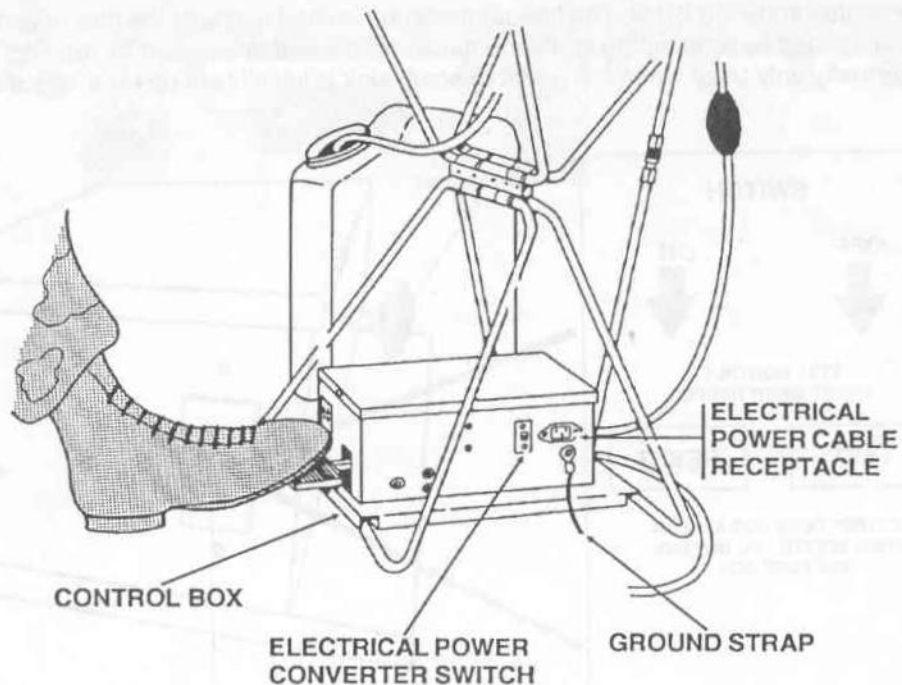

Figure 2-17. Electrical power converter switch.
e. *Electrical power converter switch (fig 2-17).* The electrical power converter switch is used to select either 115 volts or 230 volts to match the voltage of the electrical power source.